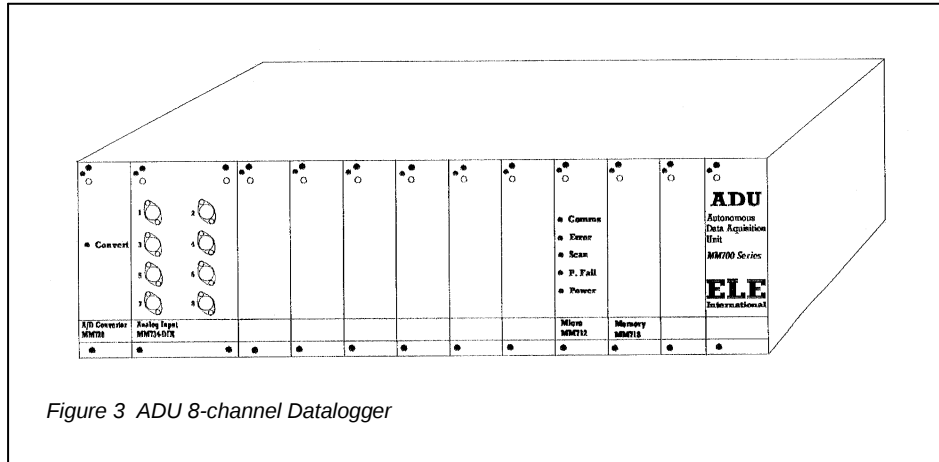

Figure 3 ADU 8-channel Datalogger
3.4 Connection to ADU (see figure 3)